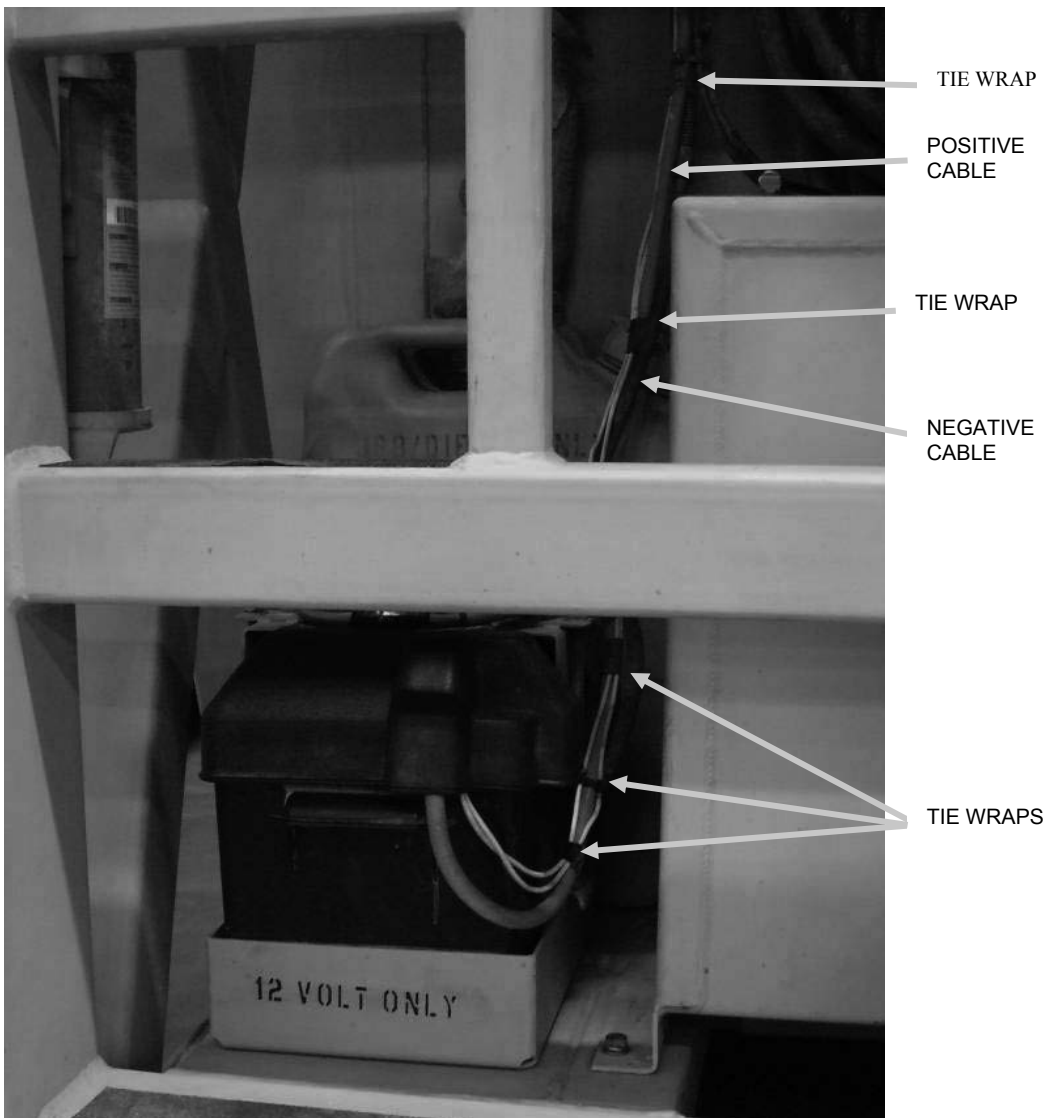

Figure 2. Battery Cables.
- (1) Refer to TM 10-8145-222-13, WP 0075, and remove RU.
- (2) Cut tie wraps and tape, and remove positive (red) and negative (black) battery cables (Figure 2) from MTRCS. Discard cables.